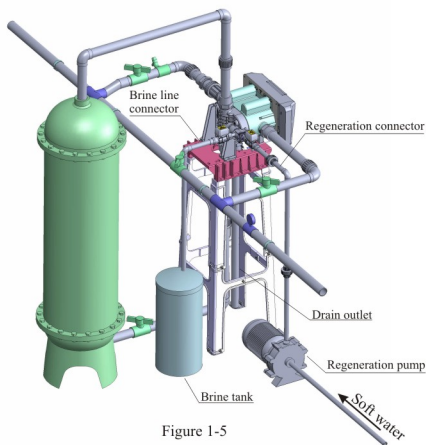

Figure 1-5
④ Connect brine tube and regeneration pump tube
- As Figure 1-5 shows, use UPVC (DN20) to connect brine valve with brine line connector of control valve.
- As Figure 1-5 shows, use UPVC (DN20) to connect the outlet of regeneration pump with the regeneration connector ball valve, then connect the inlet of regeneration pump with softened water.